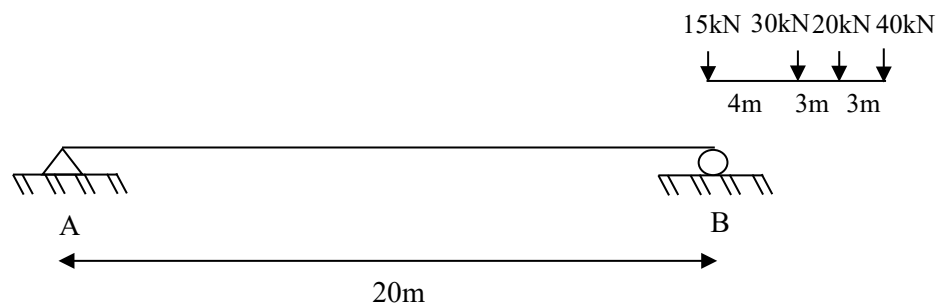

Figure A2(b)/Rajah A2(b)
- CLO3 (b) A beam in Figure A2(b) is subjected to a series of moving loads 15kN, 30kN, 20kN and 40kN respectively. The beam is a simply supported beam that is supported at point A and B. By using Influence Lines Diagram Method, evaluate the Absolute Maximum Moment due to a series loads.